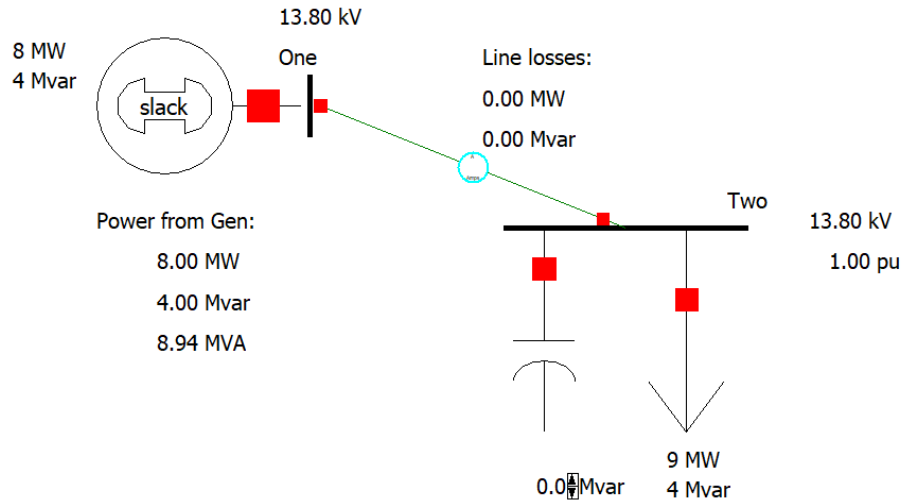

Figure 14- OLD including all Fields
16) After inserting all the measurements fields and the respective titles, your system will look similar to Figure 14.